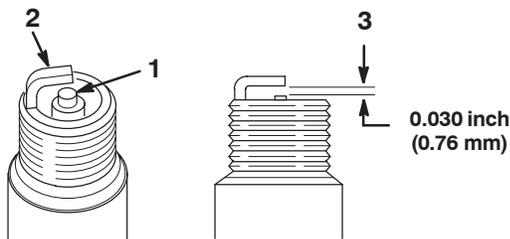

Figure 51
1. Look at the center of the spark plug (Fig. 51).
2. Check the gap between the center and side electrodes (Fig. 51).
3. Bend the side electrode (Fig. 51) if the gap is not correct.